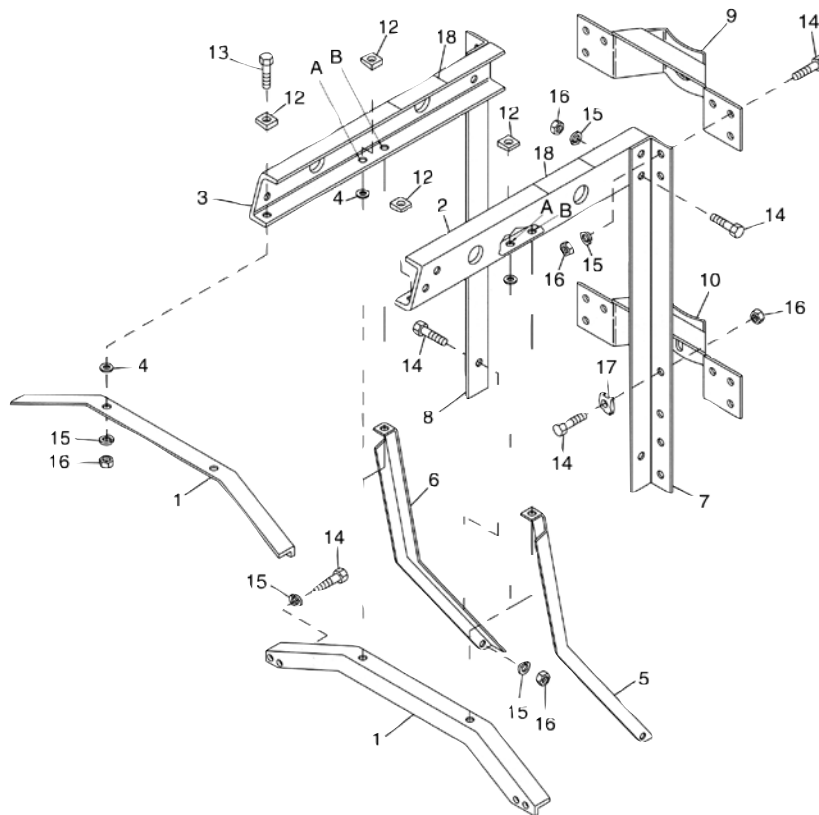

Figure 2. Exploded view and parts list for KA146W5 pole-mounting hanger.
For reference, a parts list is provided giving each item a number and indicating the quantity used (Figure 2). Thru-bolts, 3/4 inch in diameter with nuts and washers, which are dependent on choice of pole size, must be furnished by the customer.
1. Dismantle the shipping bundle and check the components against the bill of material and the exploded view diagram and parts (Figure 2).
2. Initially, assemble all hardware just finger-tight. Begin by fastening the two support angles (1) to the tapped bosses on the switchgear head casting. Fasten with 1/2-13 x 1-1/2 inch bolts (14) and lockwashers (15).
3. Attach support channels (2 and 3) to outboard support angle (1), against side to be located away from pole. Insert a round spacer (4) between angle and channels. Fasten with 1/2-13 x 2 inch bolts (13), beveled washers (12), lockwashers (15), and nuts (16).